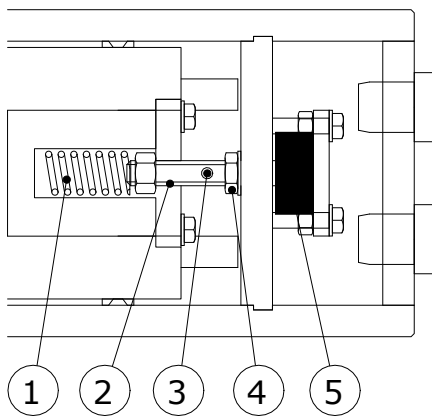

Figure 10.4.1 *Detailed view of the pressure sensor and the transport safety nut (4). The spring is not visible in reality.*
Figure 10.4.1 shows where the pressure cell (5) is situated. The tread end prevents a force to be applied to the pressure cell during transport.